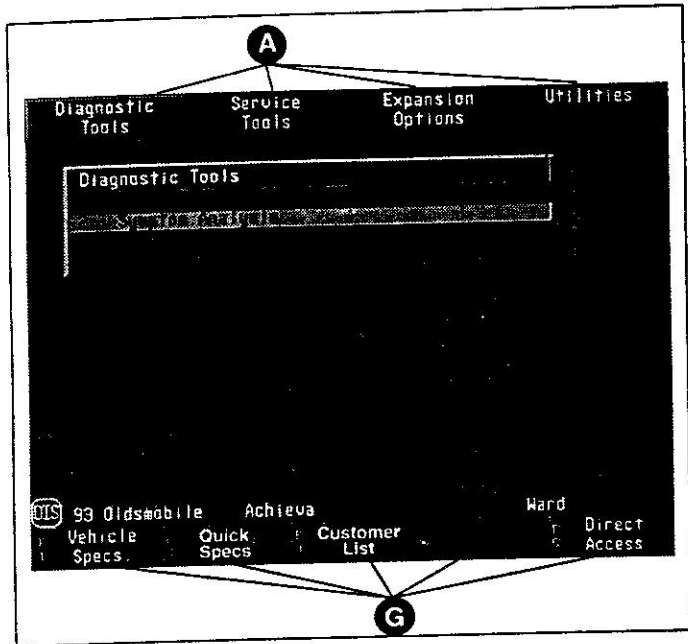

Figure 1-9
**A - The Main Menu Bar** – (see Figure 1-9) positioned across the top of the screen, contains four pop-down submenus:
**NOTE** The “F” keys shown on the Main Menu pictured in Figure 1-9 appear when no customer is loaded. If a customer is loaded, the “F” keys will be as follows: